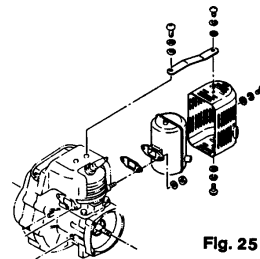

Fig. 25
c. Remove the muffler and clean out any excess carbon from the exhaust port or muffler inlet every 100 hours of operation. (Fig. 25)